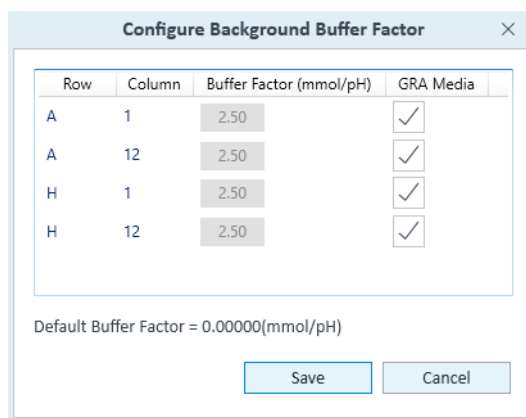

Figure 61 Configure background buffer factor
- 5 To configure Background Well Buffer Factor, click **Assay Media**. (See Figure 61.)
- 7 Under the column header **GRA Media**, check the boxes next to each background well, and click **Save**. (See Figure 61.)